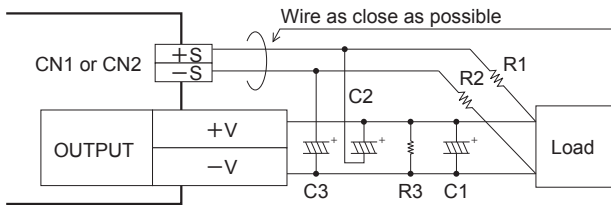

Fig. 1.4 When using remote sensing function
- Please see Fig. 1.4 if you use the remote sensing function.
- ① Wire carefully. When a connection of a load line becomes loose (due to such factors as loose screw), the load current flows to the sensing line and internal circuits of the power supply may be damaged.
- ② Use a sufficiently thick wire to connect between the power supply and the load and keep the line drop at 0.3V or below.
- ③ Use a twisted pair wire or a shielded wire as the sensing line.
- ④ Do not draw the output current from +S or -S.
- ⑤ When the remote sensing function is used, the output voltage of the power supply may show an oscillating waveform or the output voltage may dramatically fluctuate because of an impedance of wiring and load conditions. Please check and evaluate carefully before using the remote sensing function.